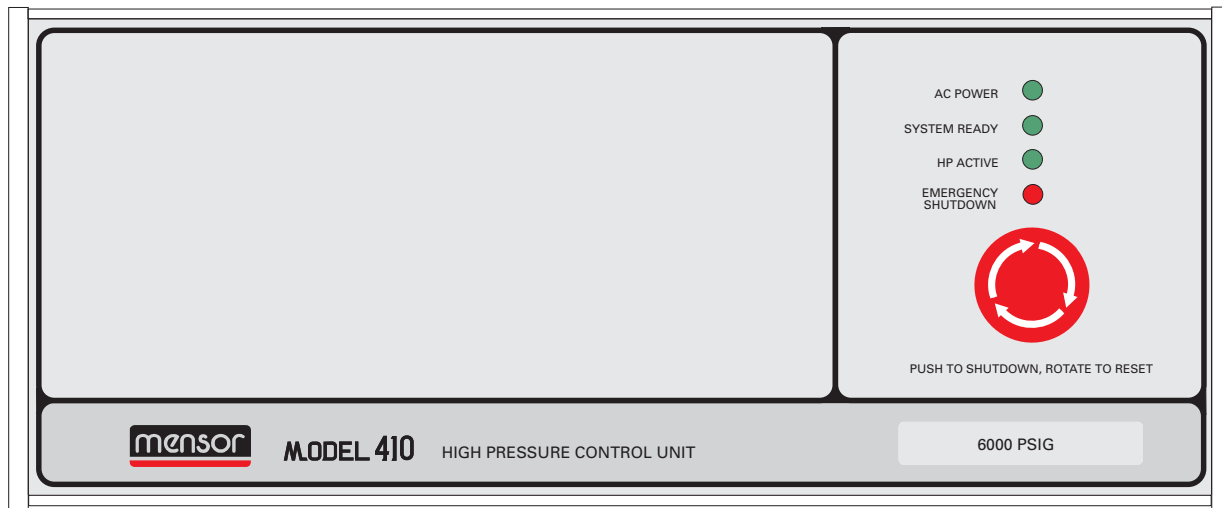

Figure 1 - Front View
3. Emergency Shutdown Button Activated. The front panel of the HPCU (see Figure 1) includes an EMERGENCY SHUTDOWN pushbutton and an LED indicator. Pressing this pushbutton while in CONTROL, MEASURE, STANDBY or VENT mode, whether in LOCAL or REMOTE operation, will immediately vent the output pressure and illuminate the EMERGENCY SHUTDOWN LED. The pushbutton must be reset manually by rotating it clockwise to restore the system to other functions. While it is possible to clear the error remotely, the error will be immediately reinstated until the pushbutton is physically reset. After the pushbutton is reset the system will remain in VENT mode until a mode change command is entered.